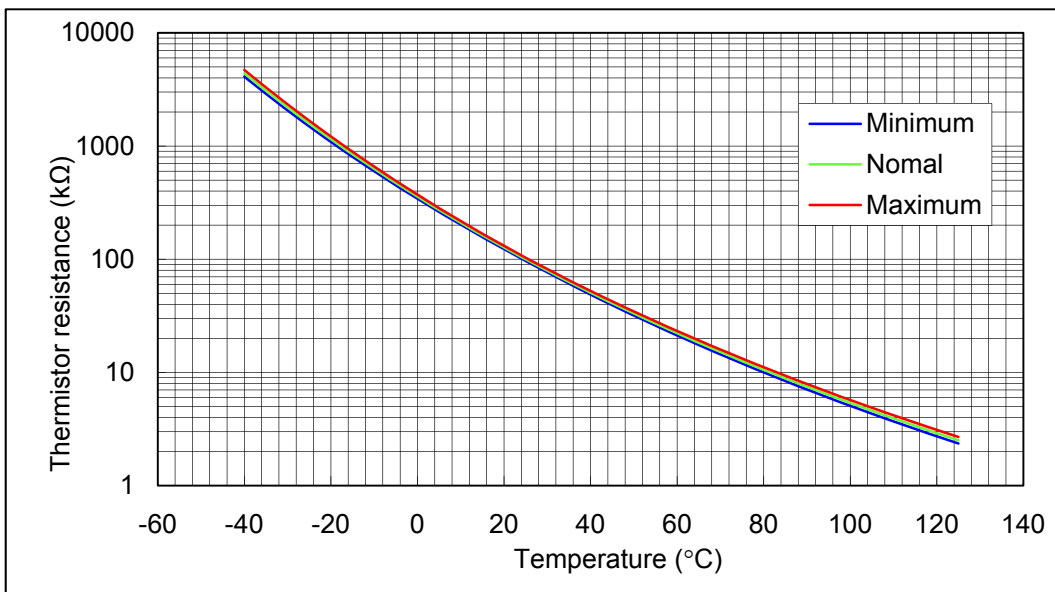
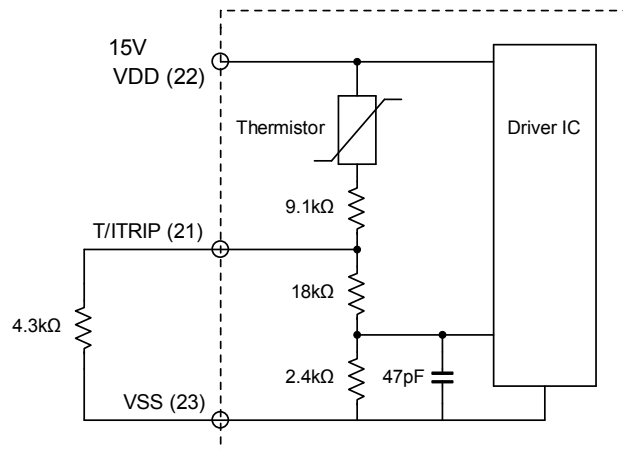

Fig. 10 Variation of thermistor resistance with temperature
Fig. 12 Sample application circuit for temperature monitoring
7. Inside the IPM, a thermistor used as the temperature monitor is connected between V_{DD} terminal and T / ITRIP terminal, therefore, an external pull down resistor connected between the T / ITRIP terminal and V_{SS} terminal should be used. The temperature monitor example application is as follows, please refer the Fig.10, Fig.11, and Fig.12 below.